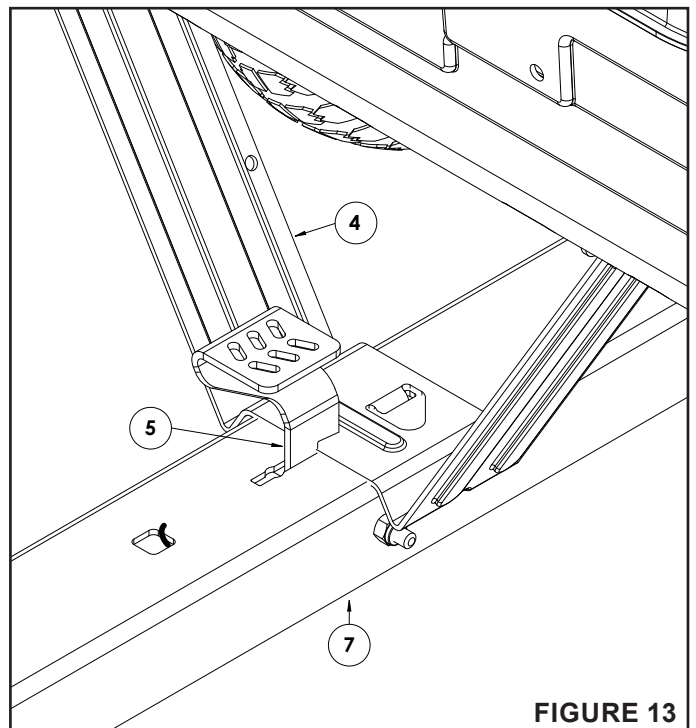

FIGURE 13
STEP 13: (SEE FIGURE 13)
- To secure the latch stand bracket (4) to the foot pedal latch (5) you will need to follow these steps:
- Push down on the foot pedal latch (5) and set the latch stand bracket (4) on the swivel tongue (7).
- Release the foot pedal latch (5).